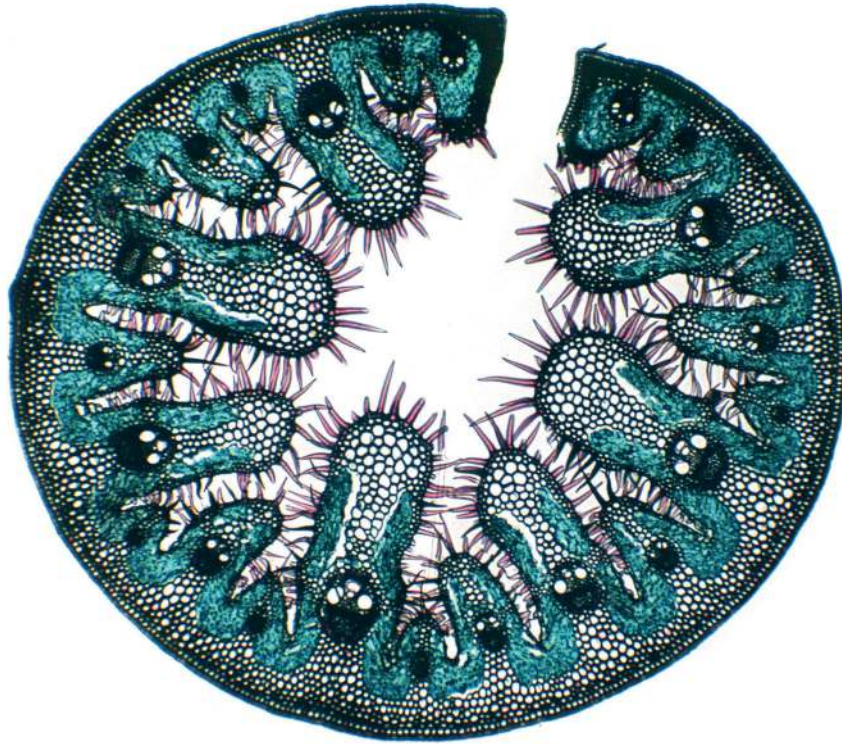
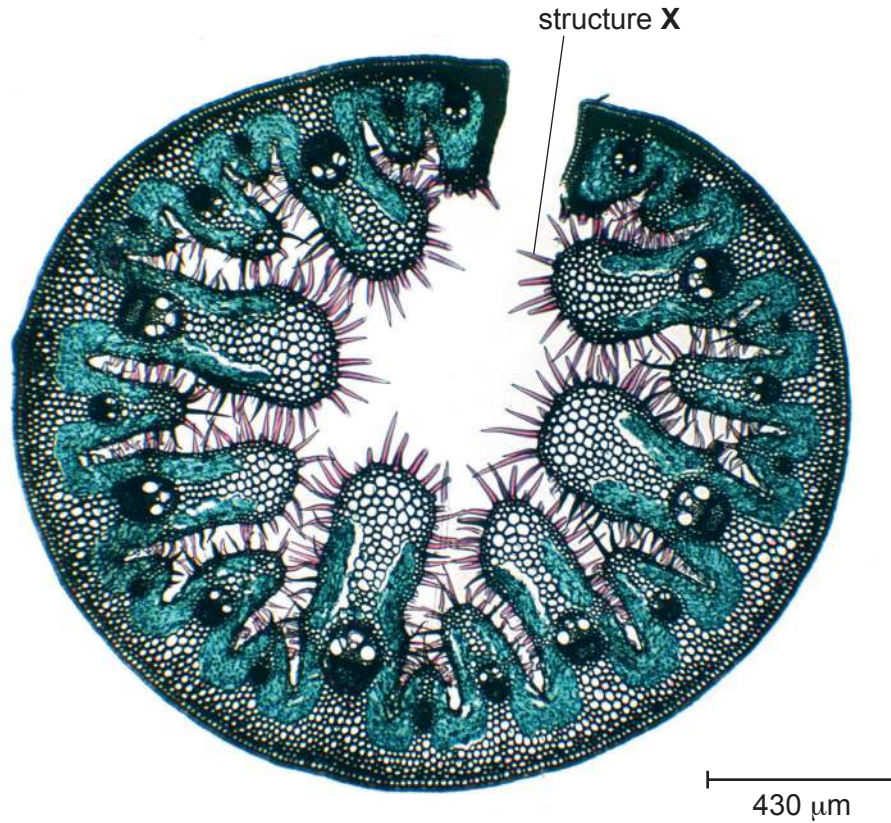

Fig. 2.2
Fig. 2.3
(b) Fig. 2.2 is a photomicrograph of a stained transverse section of a different leaf.
- (i) Identify **three** observable **differences**, other than colour, between the leaf section in Fig. 2.2 and the leaf section on **J1**.
- (ii) The leaf section shown in Fig. 2.2 is from a xerophytic plant which grows in sand dunes where there is very little water.
State **two** observable features of the leaf section shown in Fig. 2.2 which help the plant to survive in dry conditions. Explain how each feature allows the plant to survive in dry conditions.
(c) Fig. 2.3 is the same photomicrograph as that shown in Fig. 2.2.